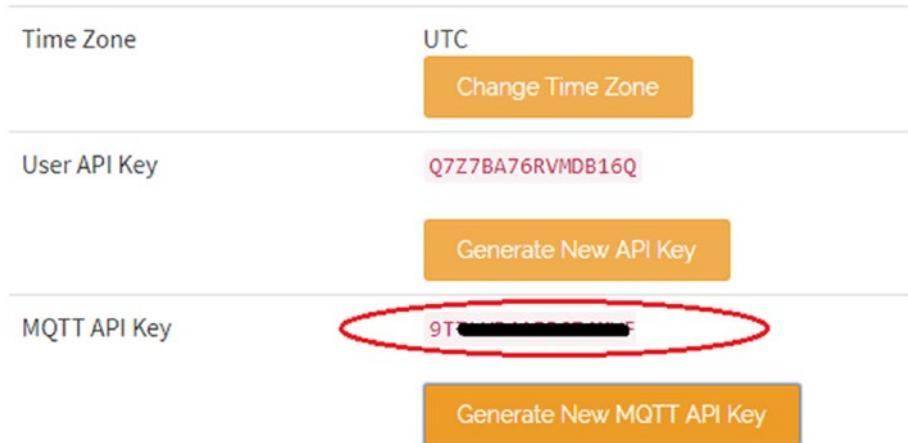

Figure 7-6. MQTT API key
2. Scroll down the page. Under ThingSpeak Settings, in the MQTT API Key section, click the Generate New MQTT API Key button to generate a new MQTT API key (Figure 7-6).